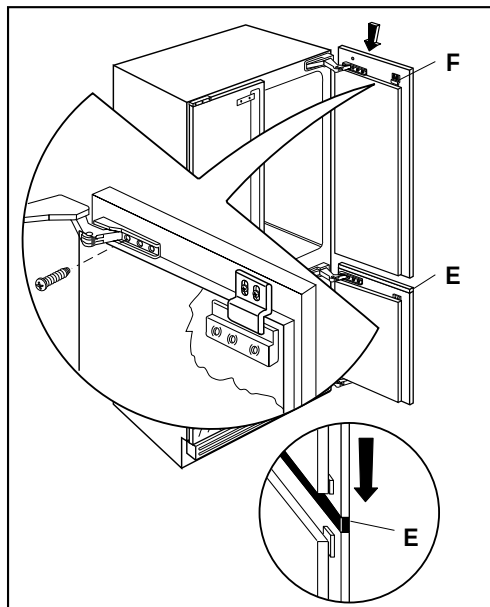

Fig. 8
- Insert the top door panel through guide block F in the guide, resting the door panel on shim E (Fig. 8).